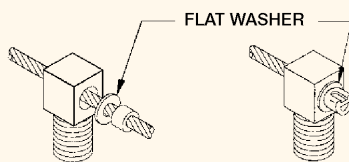

FIGURE 1: Flat Washer Safe-T-Cable® Installation
1.2.5. Applications where Safe-T-Cable® is to be installed through a hole having a nominal diameter of greater than .095 inch (2.41 mm), but less than .200 inch (5.08 mm) shall require a flat washer (same material composition as the Safe-T-Cable®) which is supplied by the Safe-T-Cable® manufacturer for this purpose, and shall be used as shown in Figure 1.